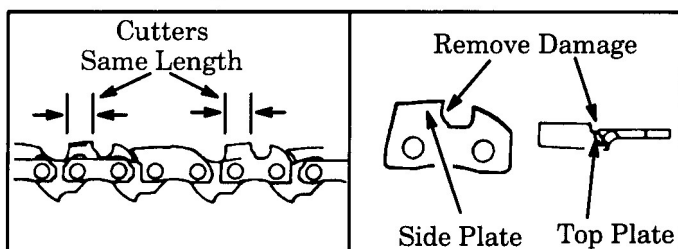

Figure 30
- c.) File from inside toward outside of cutter, straight across on forward stroke in one direction only. Use 2 or 3 strokes per cutting edge. Figure 30.
- d.) Keep all cutters the same length. Figure 30.
- e.) File enough to remove any damage to the cutting edges (side plate and top plate) of the cutter. Figure 30.